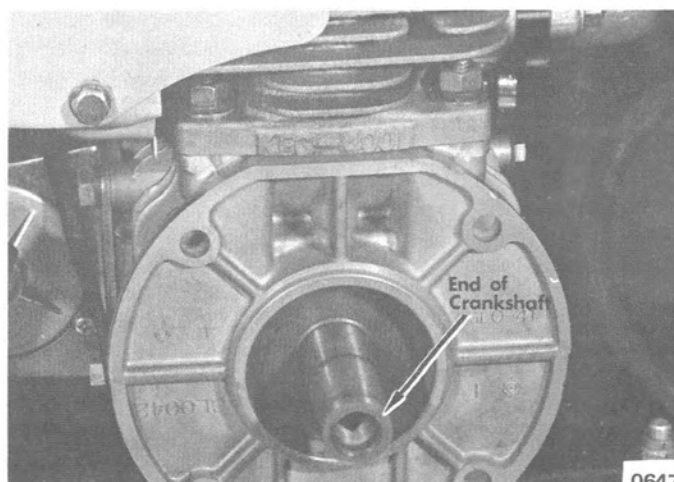

Figure 13. Crankshaft End
**IMPORTANT:** Lightning (398cc) Model CHASSIS Serial No. Below 2984489 - Before installing drive sheave assembly onto crankshaft, inspect crankshaft OD at end of crankshaft (Figure 13) for sharp edge. If sharp edge is present, use a wetstone to break edge .015 to .020 radius to prevent possible damage to inside taper of fixed half of drive sheave.